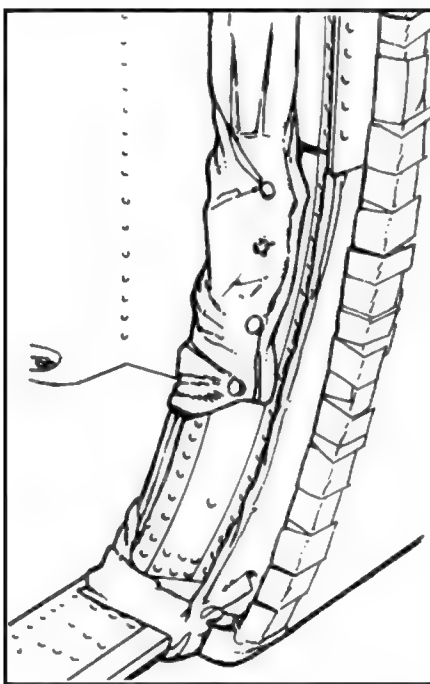

Figure 17-8. UH-60A door edge padded and taped.
- (2) Remove seat belts in the cargo compartment (except as required by aircraft crew).
- (3) Tape cargo floor troop seat and tie-down fitting wells in front of the cargo doors.
- (4) Tape sharp edges and tie-down fitting wells on the cargo floor and door jams that could cut or fray static lines or snag parachutists' equipment.
- (5) Tape the weather stripping on cargo doors below the door catch (Figure 17-8).
- (6) Tape the entire trail edge of the door.